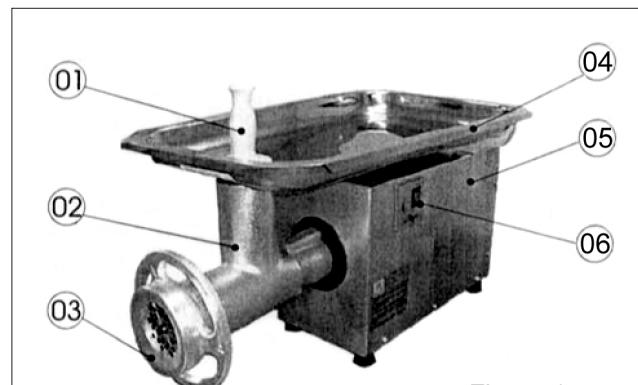

Figure 1
The feed throat (No. 02; Figure 1) and worm (No. 03; Figure 2) receive an special treatment to isolate and facilitate the cleaning.
3. Using the stomper (No. 01; Figure 1), push the meat into the feed throat where they will be sucked in by the worm.
- Remove pusher (No. 01; Figure 1) and tray (No. 04; Figure 1).
- Remove Locking Ring (No. 03; Figure 1), turning it clockwise, and the internal components of the barrel, pulling them out.